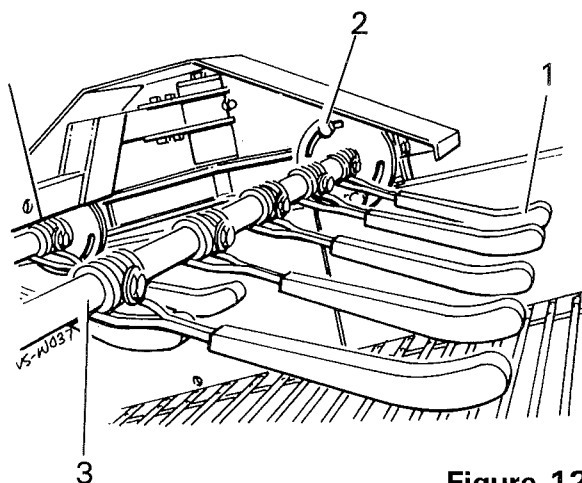

Figure 12
To set the height of the fingers (*item 1, figure 12*) above the web, loosen the clamp bolts (*item 2, figure 12*) and rotate the mounting tube (*item 3, figure 12*) until the fingers are at the required height.